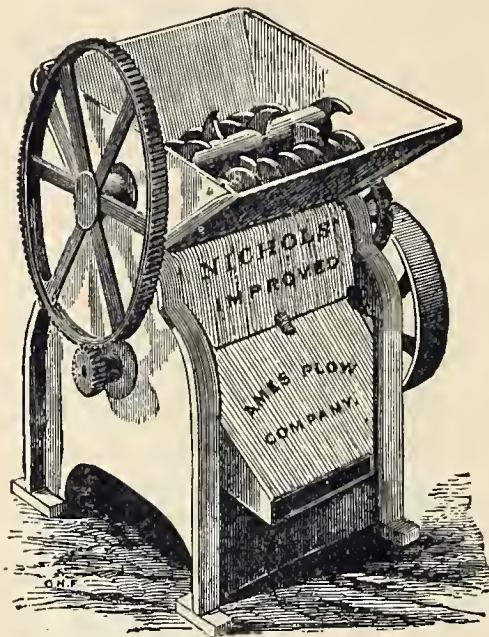

Fig. 415.—Nichols' Corn and Cob Crusher.
*The Nichols Corn and Cob Crusher and Pulverizer*, for corn-cobs, bark, oil-cake, etc., represented by *Fig. 415*, has proved to be far superior to any other mill made for the purpose, and has gained a wide reputation. The quality and quantity of work done, combined with the ease of operation, recommends it to all; and it stands to-day without a rival for rapidity and perfection of work, and durability of working-parts.